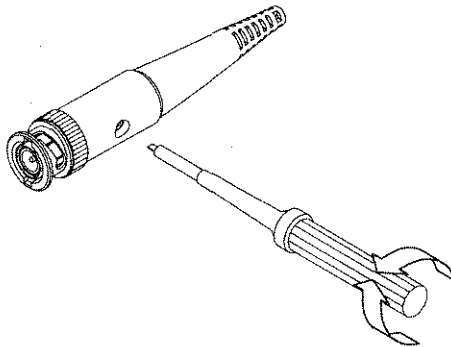

Figure 3: Probe Compensation Adjustment
10. Adjust the probe using a small, insulated screwdriver. Slowly rotate the adjustment control until the probe is properly compensated. Refer to Figure 3 for the location of the probe compensation adjust.